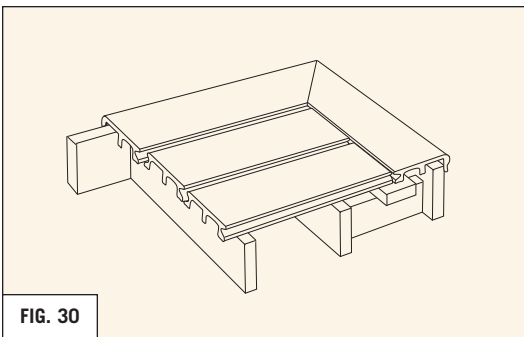

FIG. 30
- Cut decking to the exact desired length, leaving gaps for expansion/contraction. The ends of the deckboards will rest on the flat 2" x 4". (REFER TO FIG. 30)